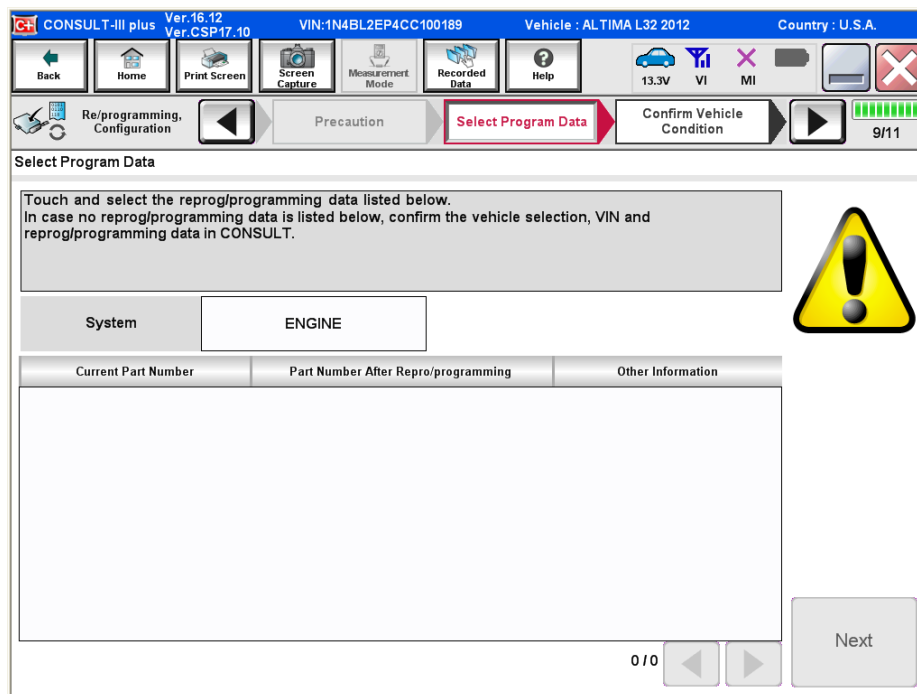

Figure 9
- If an update is not listed and a blank screen is displayed (see figure 9), a reprogram is not available for the ECM.